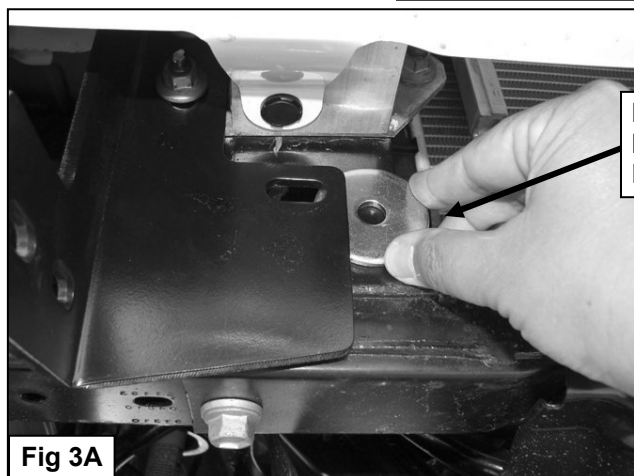

Fig 3A
4. Slide (1) Large Spacer Washer between the Mounting Bracket and the frame cross member, **(Figure 3A)**. Insert (1) 10mm x 120mm Hex Bolt with (1) 10mm x 30mm Flat Washer and (1) Large Spacer Washer into and through the hole in the back of the cross member. Make sure the Spacer Washer is against the cross member covering the large hole, **(Figure 4)**. Push the long bolt through the outer Spacer Washer and Frame Bracket. Secure the Bracket to the Bolt with (1) 10mm x 30mm Flat Washer, (1) 10mm Lock Washer and (1) 10mm Hex Nut, **(Figure 3B)**. Leave hardware loose.